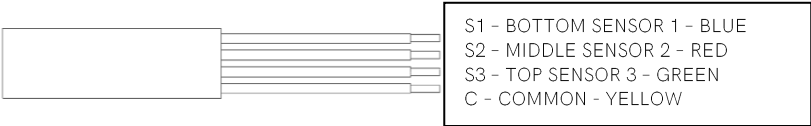

Figure 6: Temperature Sensor colour coding
These can be used with a suitable external controller to manage the charging and discharging of the battery. For wiring purposes, the sensor cable color coding is shown in Fig. 6 and the specification of the sensors is given in the section below.
- Figure 6.